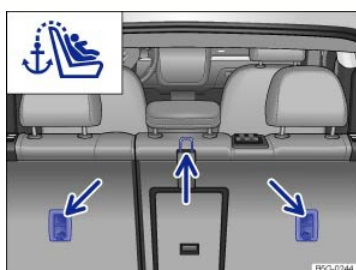

Fig. 53 Anchorages for the top tether strap on the back of the rear seat.
- Locate the tether anchor behind the rear seat backrest ⇒ *Fig. 53*.
- Attach the tether strap anchorage hook into the opening of the tether anchorage ⇒ *Fig. 53*.